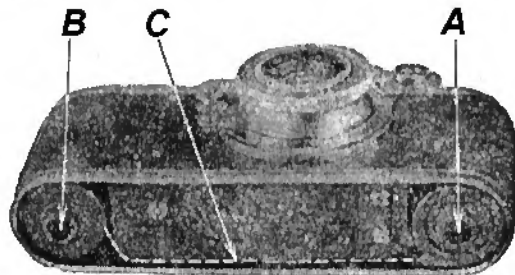

Fig. 3
The position of the film cassette and takeup spool inside the camera is shown in fig. 3.
1. Extract the take up spool "B" (fig. 3) from the camera.